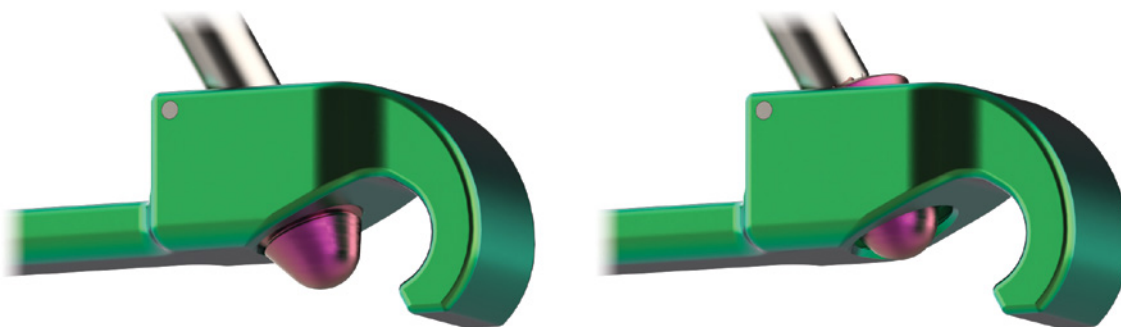

Figure 5.5
3. Connect the Torque Limiting 40 in-lb. Handle to the CrossLynxx Driver shaft. The rod set screws must be backed out with the CrossLynxx Driver such that they do not obstruct placement of the connector on rod (Figure 5.5).